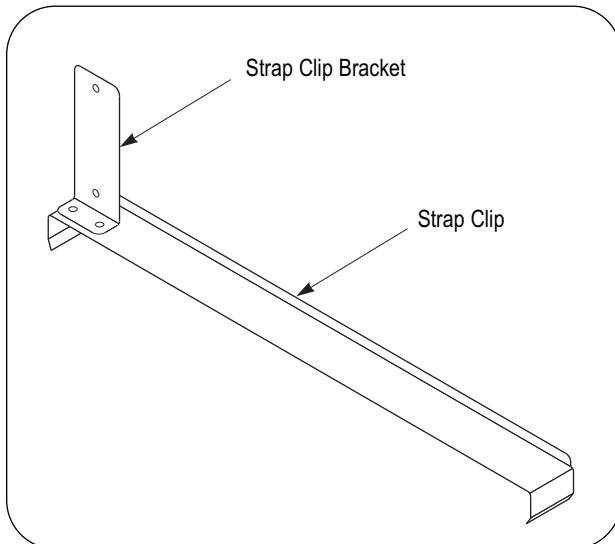
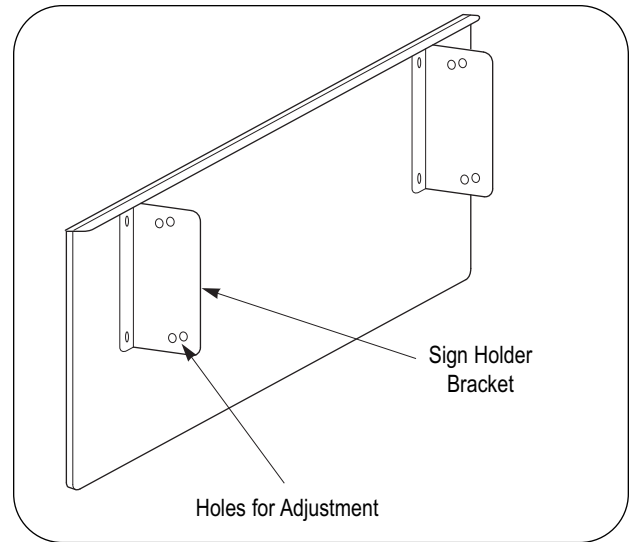

Figure 12. Strap Clip Assembly
Figure 13. Sign Holder Assembly
1. Attach strap clip brackets (Figure 12) to sign holder brackets with screws and cap nuts. Two hole positions on the sign holder brackets provide angle adjustment. Select the desired holes for placement on either a slant or horizontal unit. (See Figure 13.)